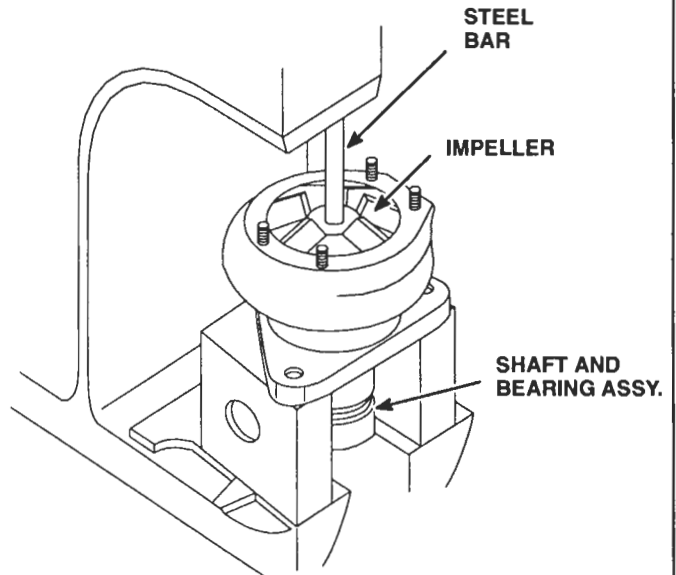

Figure 2. Pressing Pump Shaft from Impeller
2. Support the pump on its mounting flange in an arbor press (Figure 2.) Place a short steel rod on the end of the shaft and press the shaft and bearing assembly from the impeller, seal and pump body.